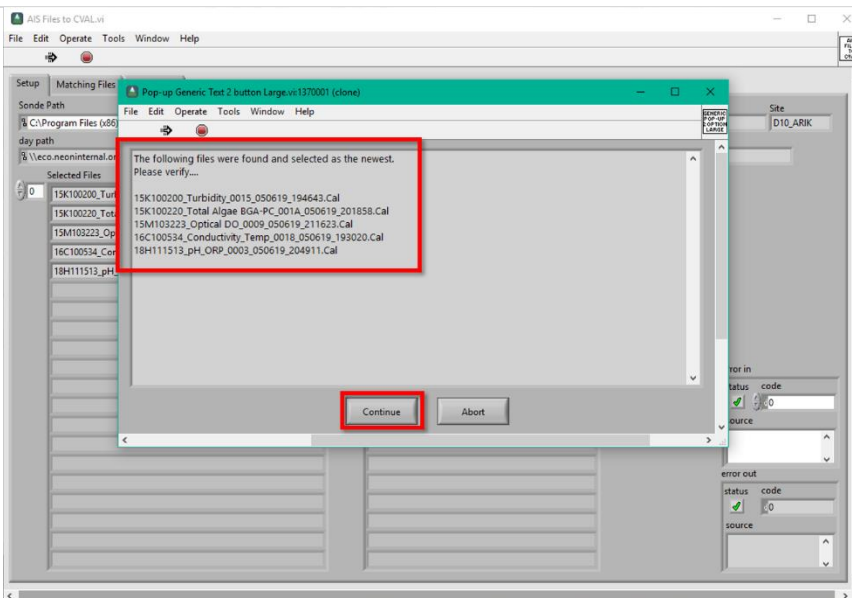

Figure 171. Upload Most Recent Calibration Files to CVAL
**STEP 8 |** The application displays a list of files to upload to CVAL (Figure 171). It uploads the most recent files. (If you had to conduct two calibrations on a probe, it will take the most recent calibration file.) If you conducted calibrations from sensors at two different sites, it will show your selection of site files.